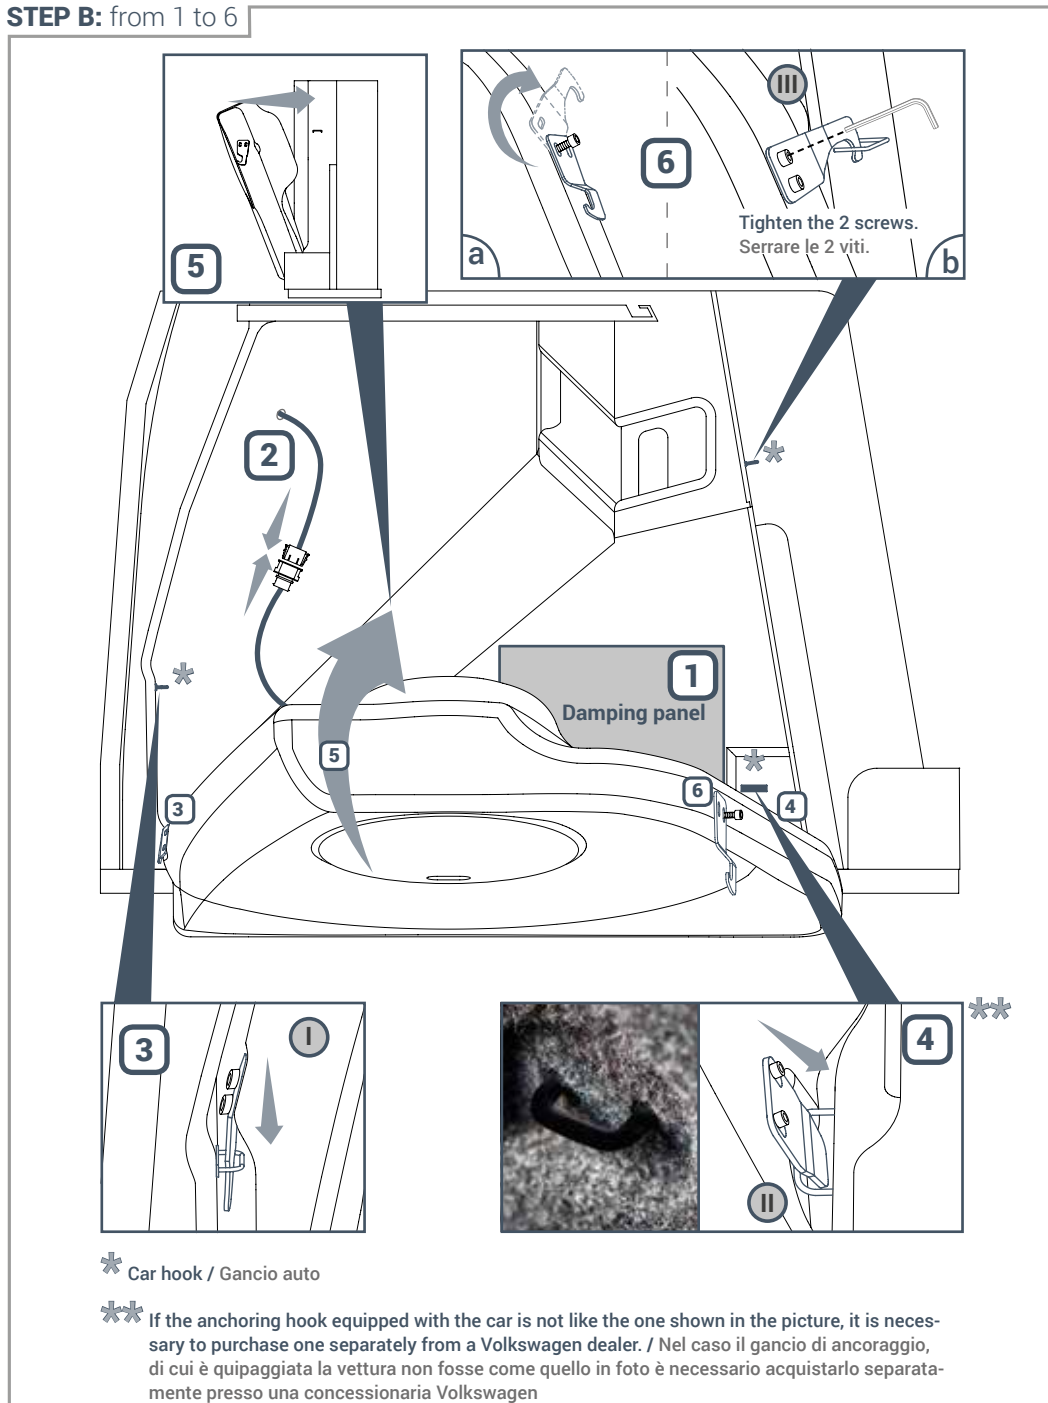

Fig. 22
- 9.2.1** After positioning the DAMPING PANEL (Fig. 22 point 1), connect connector (Fig. 22 point 2) and insert brackets **I** and **II** of the box into the anchoring hooks of the boot (Fig. 22 points 3 and 4).
- 9.2.2** Place the box vertically (Fig. 22 point 5), rotate bracket **III** and insert it into the anchoring hook of the backrest. Then also assemble the second screw and lastly tighten both in order to secure APBX G6 (Fig. 22 point 6 A/B).